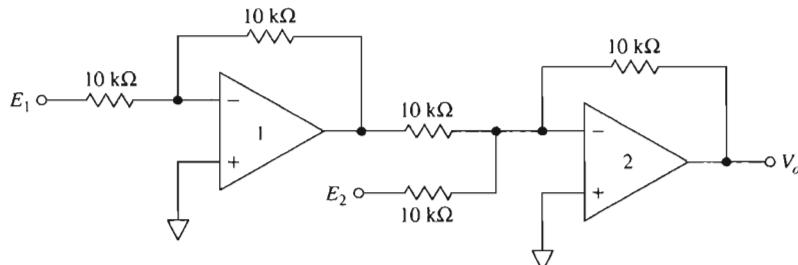

FIGURE P3-14
- 3-14. The circuit of Fig. P3-14 is called a “subtractor.” Is E_1 subtracted from E_2 , or vice versa?
- 3-15. A 5-V peak-to-peak sine wave, E_2 , is applied to the summing node in Fig. P3-14. Plot V_o vs. E_1 if voltage E_1 is (a) +5 V; (b) -5 V.